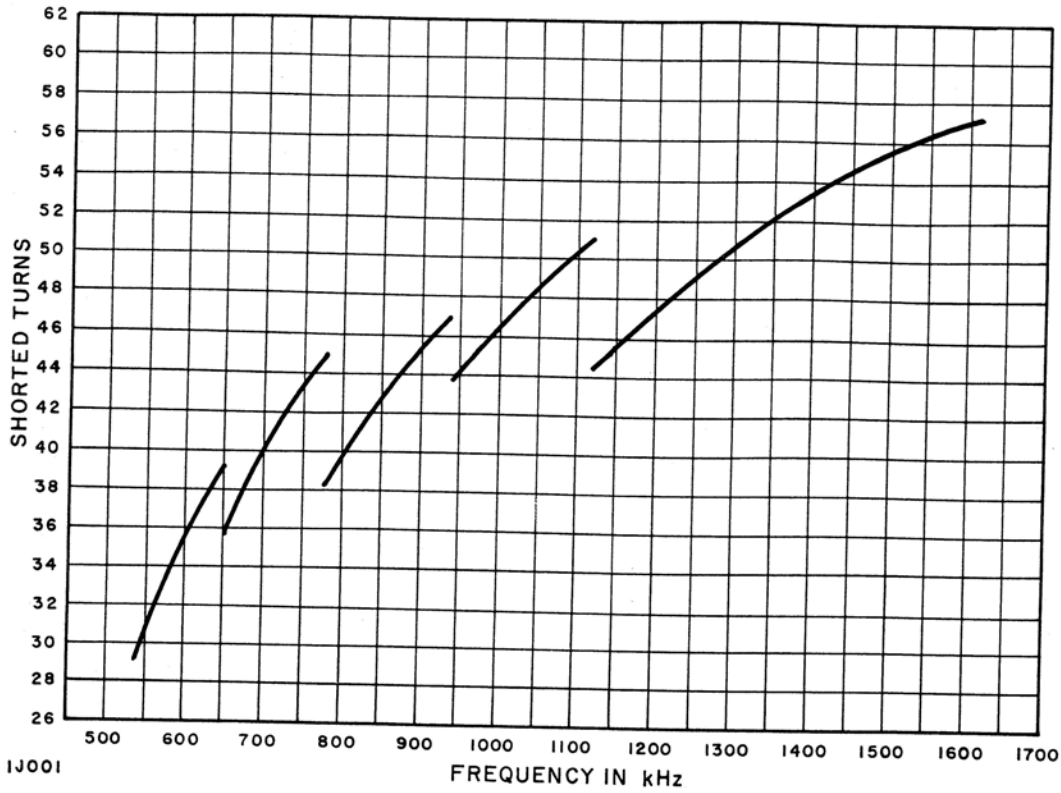

Figure 3. Tuning Chart, PA Tank, 1L301 Jumper Connections
12. Refer to the tuning charts, figures 3 and 4, and adjust the shorting straps on the PA tank coil, 1L301, and the second harmonic trap coil, 1L304, according to